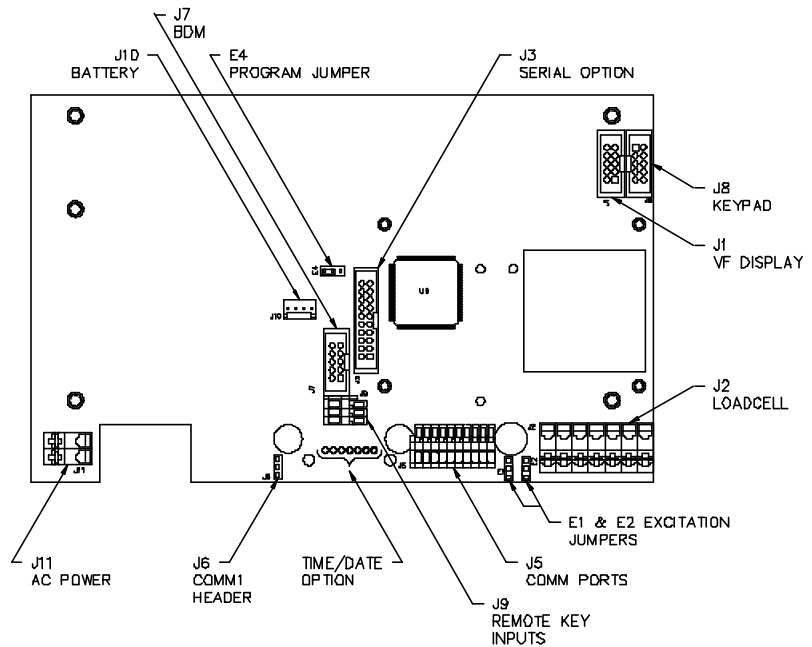

Figure 2-2: 460 and 465 Main Board
4. Carefully lift the rear panel from the enclosure, and disconnect the keypad ribbon cable from J8 on the main printed circuit board (see Figure 2-2).
6. Connect the load cell leads to J2 on the main board (see Figure 2-2 and refer to page 2-19).
1. Connect the keypad ribbon cable to J8 on the main board (see Figure 2-2).
4. Install the load cell leads into J2 on the main board (see Figure 2-2 and refer to page 2-19).